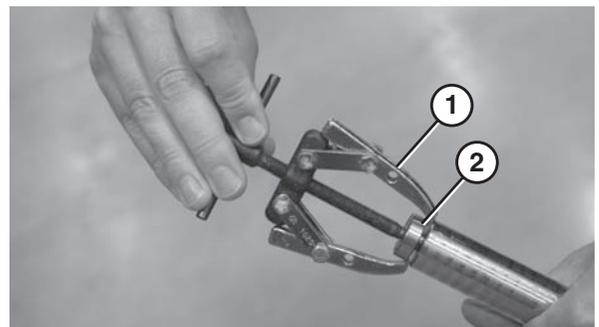

Figure 98
3. Using a bearing removal tool (**Figure 98, item 1**) remove the bearing (**Figure 98, item 2**).